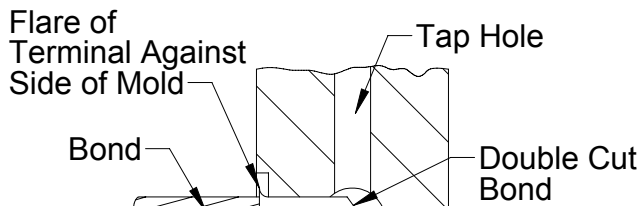
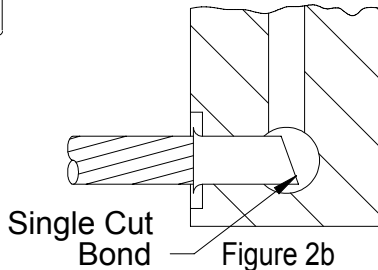

Figure 2a (Left Hand Shown)
Figure 2b
1. Insert web bond into mold and push until flare of sleeve is against mold. This positions bond in weld cavity and terminal under center of tap hole correctly (See Fig. 2a and 2b). **Note:** Fig. 2a - For double cut bonds, bond is interchangeable for left or right hand molds. Fig. 2b - For single cut bond, angle of bond faces upward. Left hand bond requires left hand mold; right hand bond requires right hand mold.